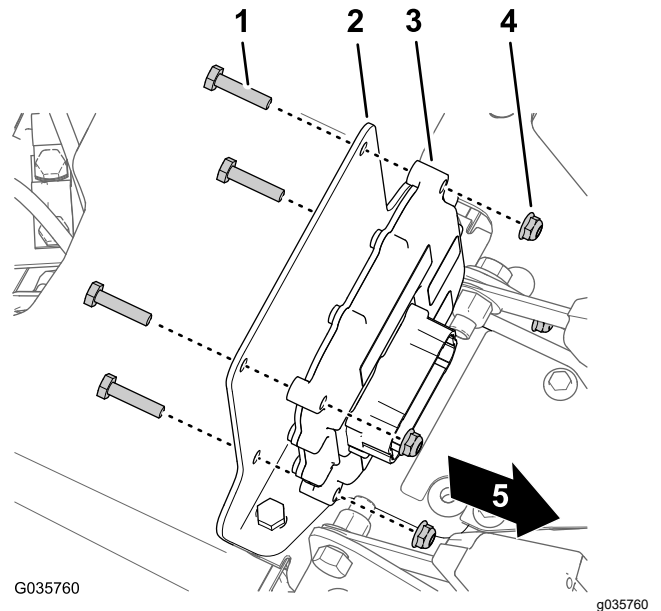

Figure 31
3. Assemble the electronic controller to the mounting bracket (Figure 31) with the 4 bolts (1/4 x 1-1/8 inch) and 4 locknuts (1/4 inch).
2. **For 2015 and before machines**—locate the knockout plug between the inboard operator and passenger seat-belt halves, and remove the knockout plug from the console base (Figure 31).